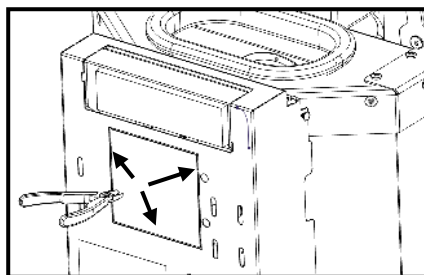

Figure 110 – Removing the rear lid of the equipment
f) Remove the rear lid from the unit's chassis marked in Figure 110, by cutting the identified areas using a pair of pliers.